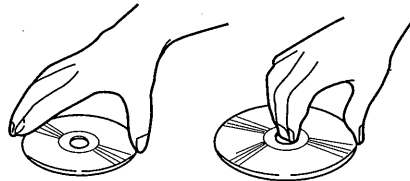

Fig. 32
- Be sure never to touch the signal surface when handling discs. Pick up discs by grasping the outer edges or the edges of the hole and the outer edge. (Fig. 32)